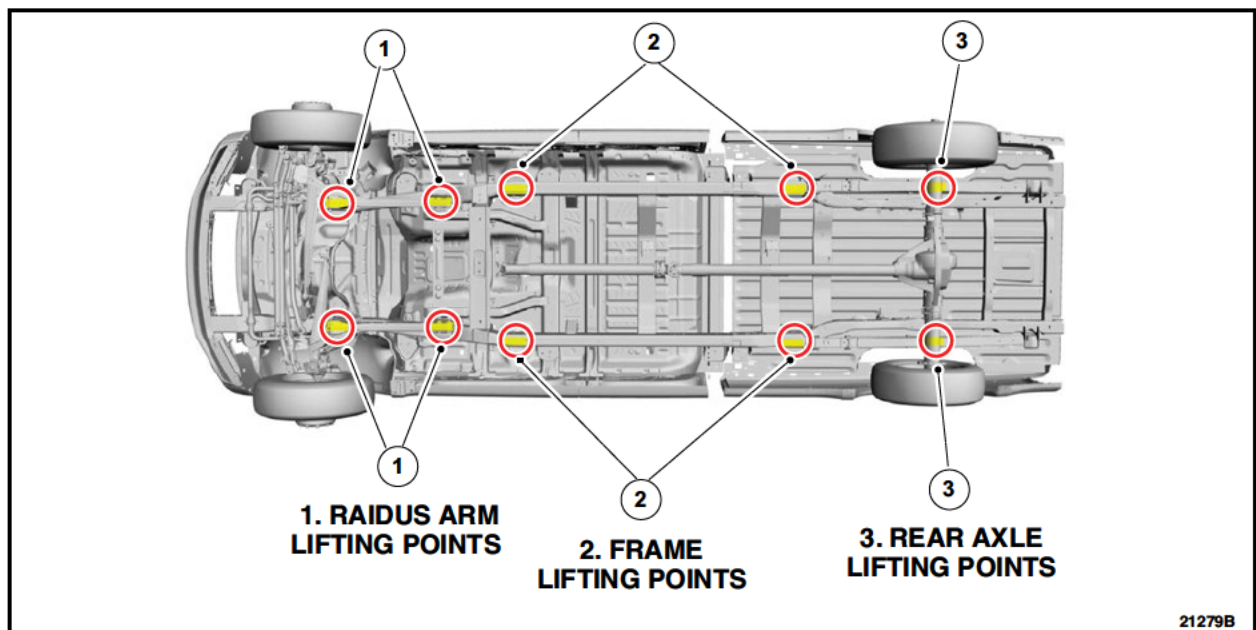

FIGURE 1
1. Use one of the front 4 jacking points indicated in figure 1 to lift the vehicle. When jacking or lifting the vehicle install floor stands to support the weight of the vehicle. The rear wheels should be blocked to prevent movement. See Figure 1.